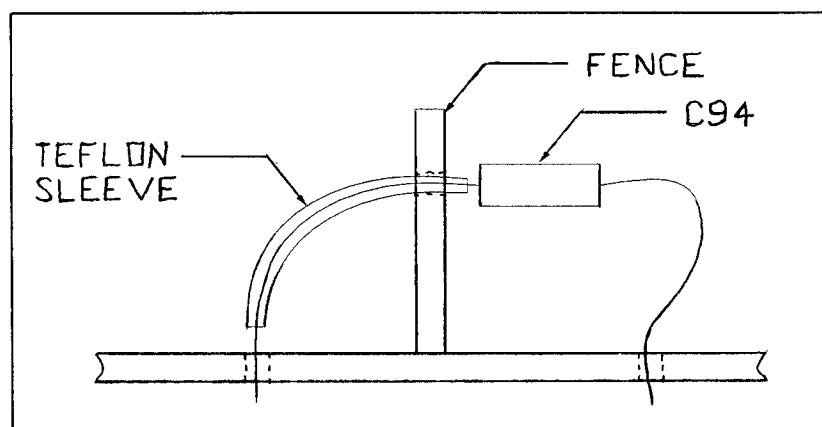

Figure 1) Installation of C94 with Teflon® sleeving through the shield fence.
- C. Install capacitor, C94, PN 106-00001-0008 with Teflon® sleeving, PN 16016-22 in place of inductor L17. Refer to Figure 1 for application of sleeving.